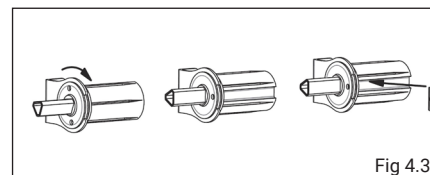

Fig 4.3
3. Install the bearing lock to lock the master blind into position. Rotate the bearing 90 degrees so that one of the holes aligns with the end of the bracket. Insert the bearing lock clip into the slot in the bearing at the end of the bracket, ensuring it clicks into place. (Note. The bearing lock cannot be pulled out once the clip is locked into place) (Fig 4.3).